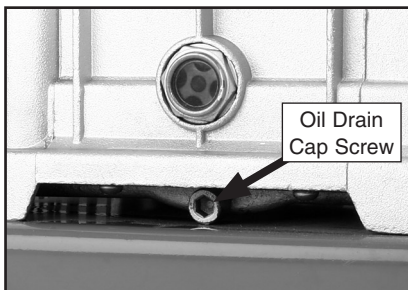

Figure 15. Oil drain cap screw.
2. Place a container on the floor to catch the oil, then tip the compressor so the cap screw shown in **Figure 15** is over the container.
3. Use a hex wrench to remove the oil drain cap screw shown in **Figure 15**.